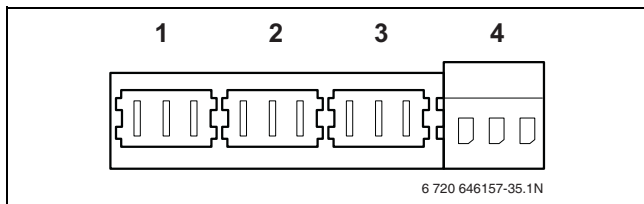

Fig. 38 120 VAC Connections
► Connect the external heating or system pump (for situations where the pump of the Buderus pump group is not used) to the green PK terminal (→ fig. 38). The maximum allowed connected load of the pump = 100 Watts.
► Connect the DHW pump to the grey PS terminal (→ fig. 38). The maximum allowed connected load of the pump = 100 Watts.
► Connect the DHW circulation pump to the lilac PZ terminal (→ fig. 38). The maximum allowed connected load of the pump = 100 Watts.